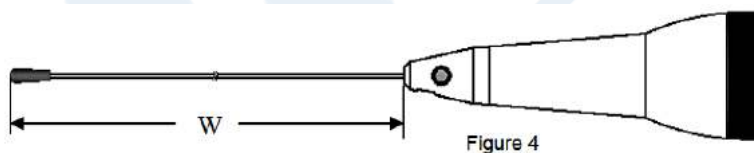

Figure 4
2. **NOTE:** The Tuned Length "W" is determined by measuring the distance between the top of the whip adapter and the top of the whip. See Figure 4. Cut length dimension will be approximately 1" (25mm) longer than tuned length "W".
5. Cut the whip length required to establish the specified Tuned Length "W" as shown in Figure 4.
- NOTE:** The Tuned Length "W" is determined by measuring the distance between the top of the whip adapter and the top of the whip. See Figure 4. Cut length dimension will be approximately 1" (25mm) longer than tuned length "W".